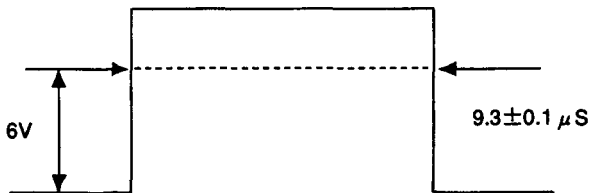

Fig.5-3
- Observe the anode of TP300 or D516 with an oscilloscope, and adjust **[H-BLANKING]** so that the waveform will be as shown in Fig.5-3.